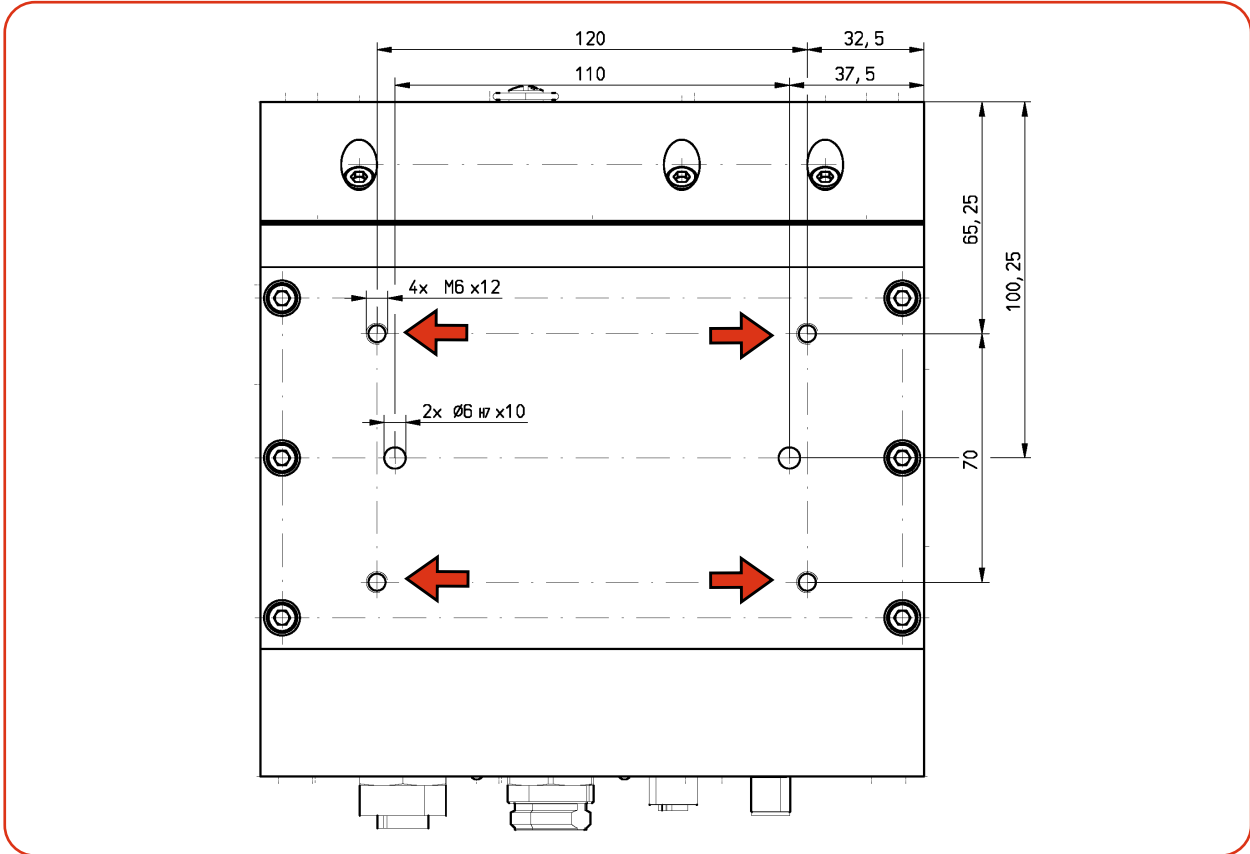
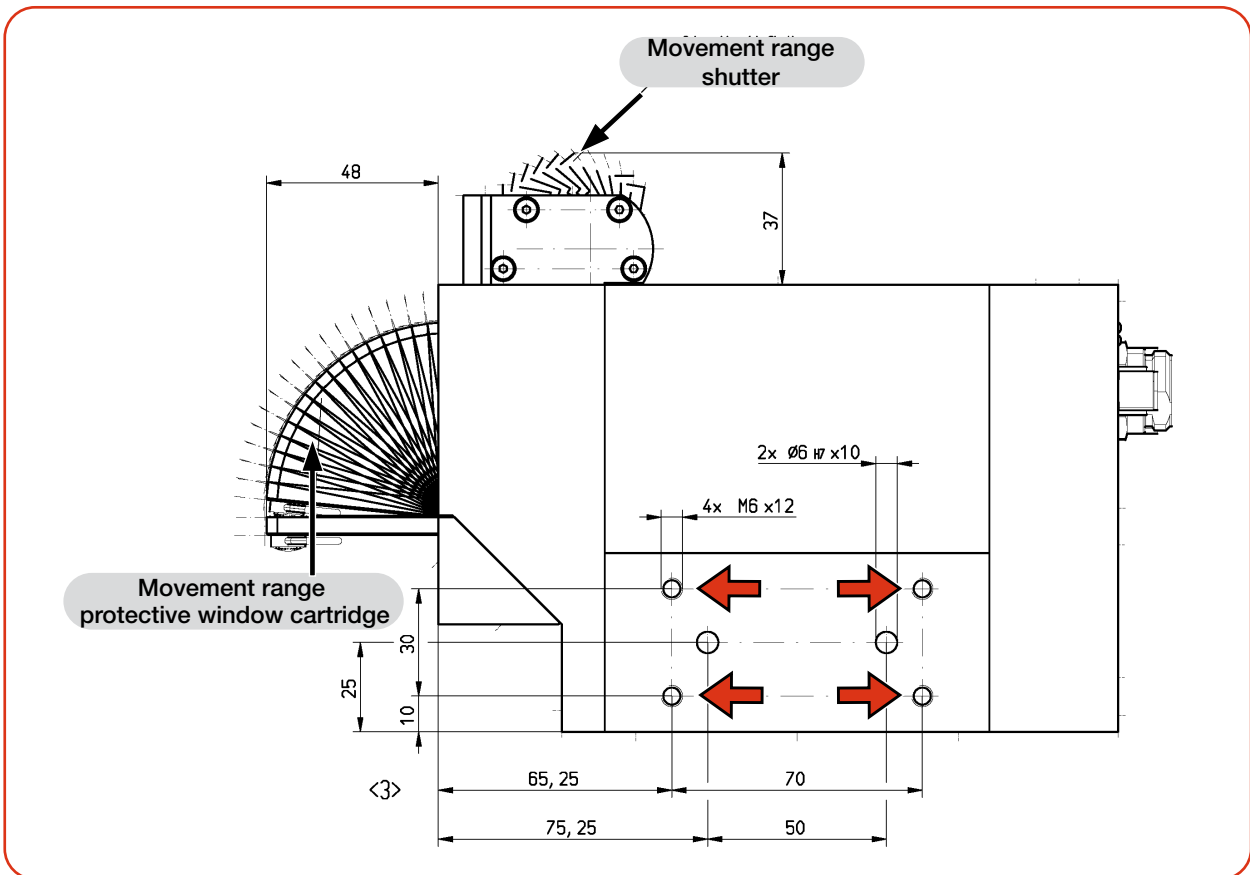

Fig. 6.2: Mounting hole in the base plate (view A)
Fig. 6.3: Mounting holes in the side wall (view B)
In the base plate of the housing (A) as well as in the side wall (B) there are four fastening threads M6 for the fixture on a customer specific mounting (see Fig. 6.2 and Fig. 6.3 ). Please mount the housing with four screws M6. We recommend screws of the strength class 8.8 and a tightening torque of 35 N·m.